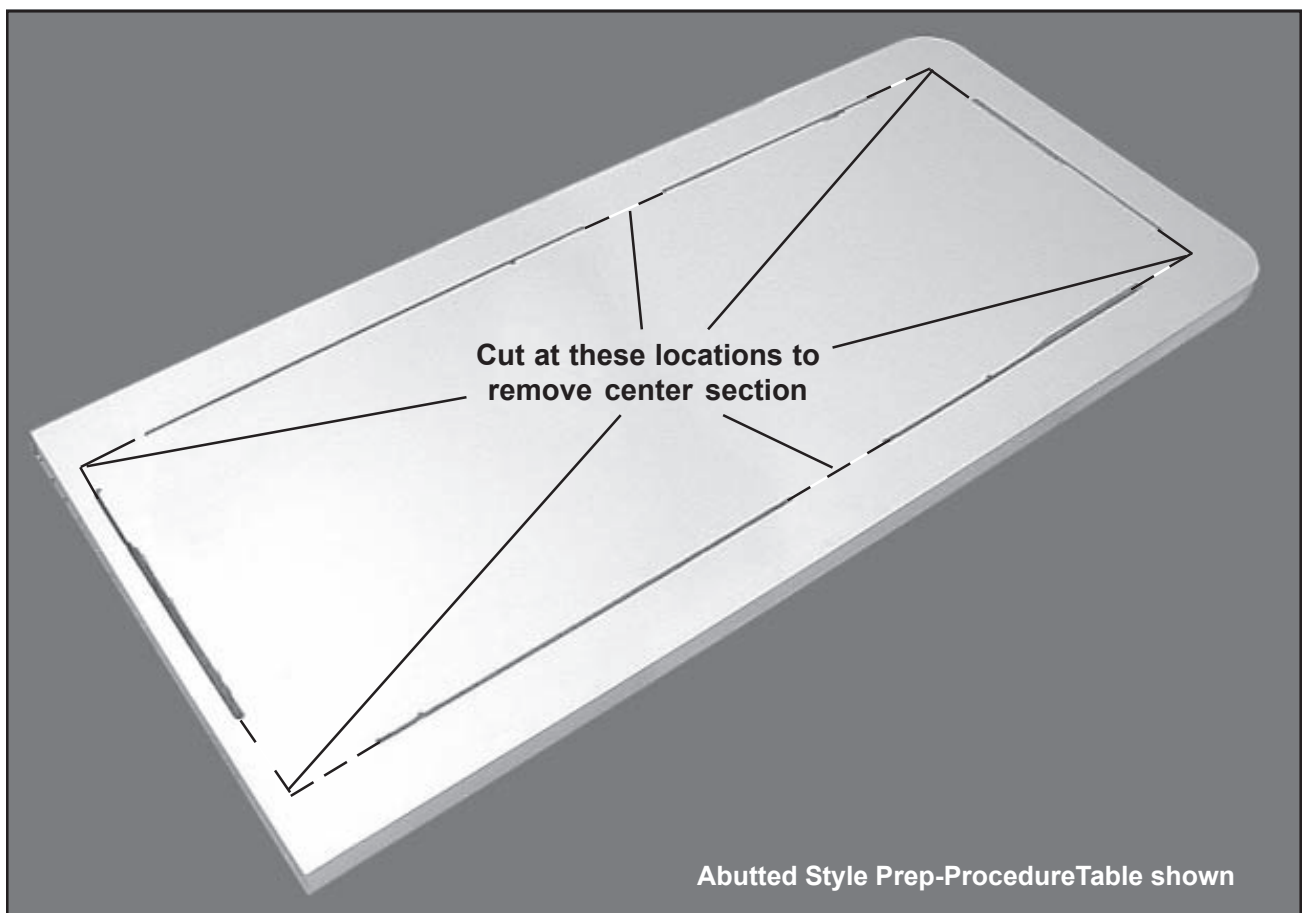

Figure 5. Prep-Procedure Table Top Showing Center Section to be Cut Out for Tub
4. The top is shipped as a single, solid piece to minimize damage during shipment. The tub location is shown by partial cuts in the top (Figure 5). The center piece must be cut out of the top to install the tub. We recommend you secure the services of a professional carpenter to finish the cuts to insure accuracy and to reduce the possibility of accidental damage.